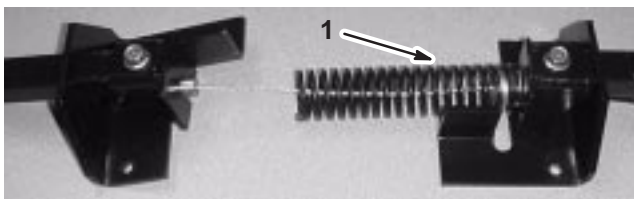

Figure 6
6. Position the large spring over the cable (Fig. 6).